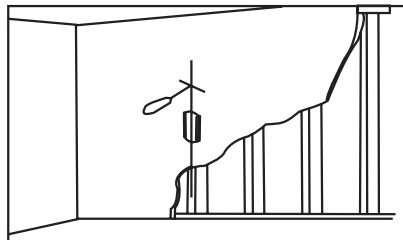

Fig 2b
Wooden wall (Fig 2b):
Using an awl or nail to make where the nails are located, as shown as fig.2b. Distance between two nails for fixing wall mount must not less than 12". Pre-drill these holes with a 5mm drill bit to a at least 80mm in deep hole. Please make sure these holes are level and located at center. Use wall mount as a template to mark the location of other three holes and drill the same holes. Fix the wall mount to the wall with 4 long bolts (O) and washers (Q).